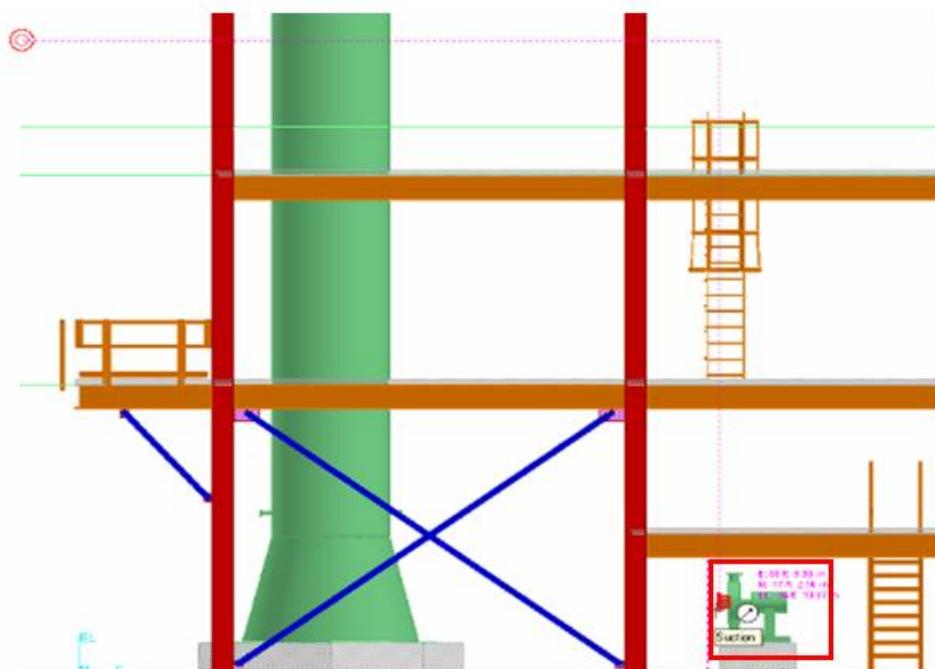

Figure 3. 5: Suction Nozzle of Pump P-101
5. The **New Pipe Run** dialog box appears. Select **300-W** in the **Pipeline** field, as shown in Figure 3. 6.